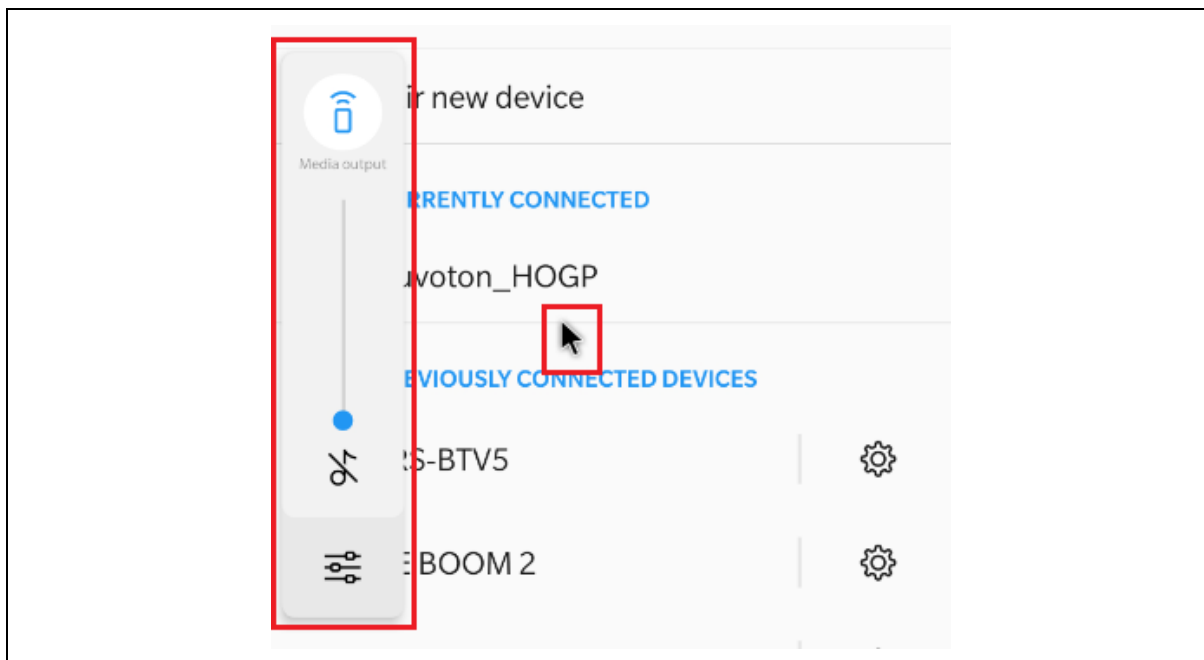

Figure 4-17 HID Mouse and Consumer Demonstration
5. After connected to the device, you can see the HID demonstrate automatically. In the screen, you can see the mouse cursor and volume control screen, as shown in Figure 4-17. The HOGP\_mouse controls cursor to draw a diamond slowly, at the moment cursor moved to the top, and HOGP\_consumer controls volume.